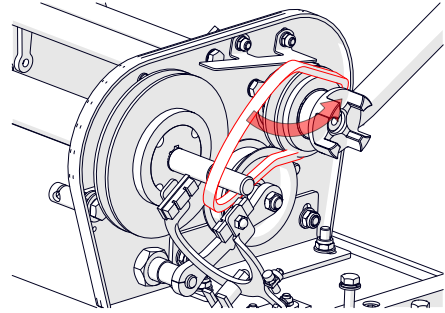

Fig. 14G - Replace drive belt.
8. Remove the belts and replace (if required) (Fig. 14G).